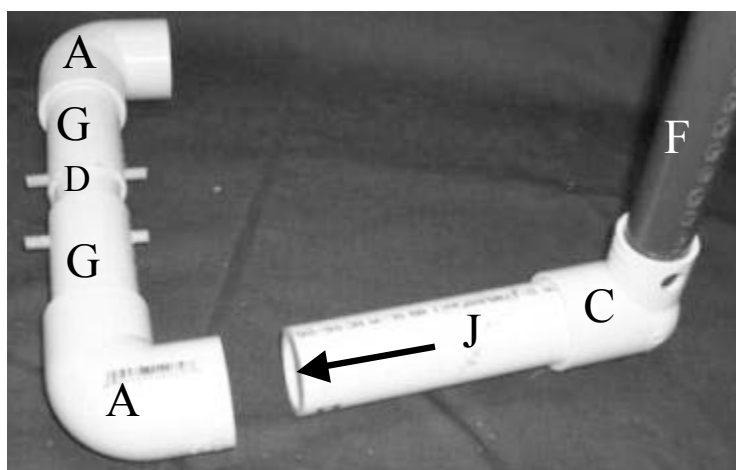

FIGURE 21 – Step 16 – Joining Side Frame to Rear Frame.
Step 17. Repeat Step 15 for the opposite side (Figure 21).